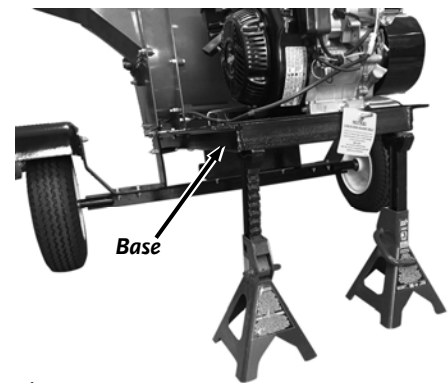

Figure 2
1. Place the Base on Jack Stands so that the Frame is level with the ground (**Figure 2**).